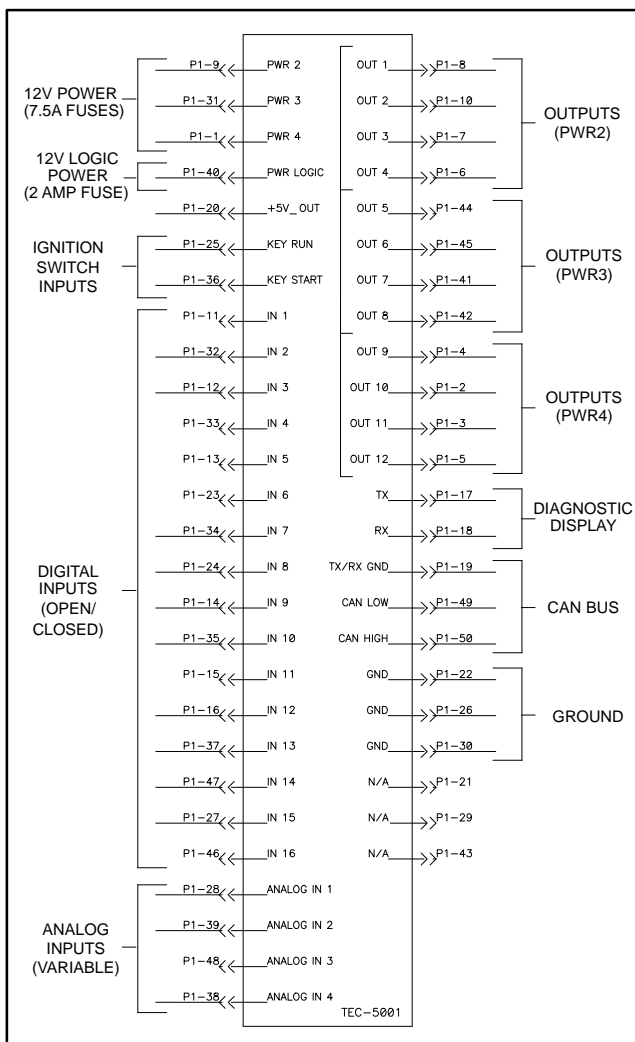

Figure 57
The diagram in Figure 57 depicts the connection terminal functions of the TEC controller. A fifty (50) pin wire harness connector attaches to the controller. The connector pins are listed in the diagram. Note that electrical power for controller outputs is provided through three (3) connectors each protected with a 7.5 amp fuse.